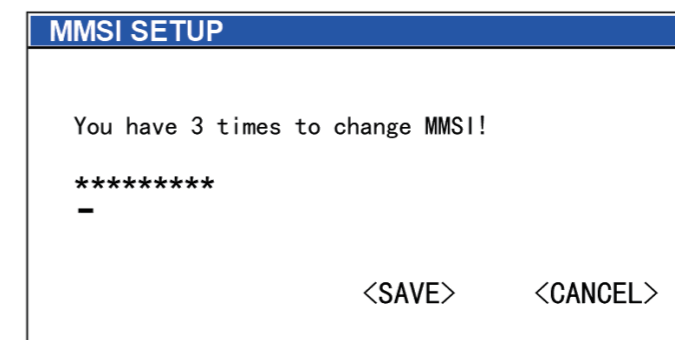

Figure 6.6.1
- a: In the "DSC SETUP" menu, select <MMSI> and press [CH/ENT] to open the MMSI settings dialog, as shown in Figure 6.6.1.